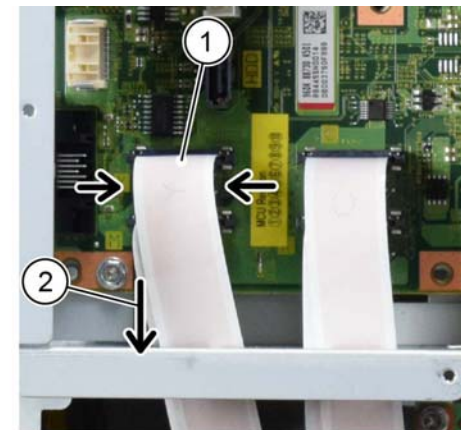

Figure 5 FFC cables
8. Disconnect the four FFC cables, Figure 5:
- b. Carefully disconnect the FFC cable (1) by releasing the side clips.
- c. Pull down the FFC cable through the gap in the ESS chassis (2).